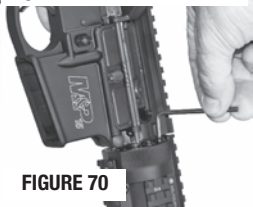

FIGURE 70
- Snug the 4 screws (FIGURE 69) that hold the handguard in position, check that the forend is aligned correctly with the receiver and barrel, then proceed to tighten the screws uniformly (FIGURE 70).